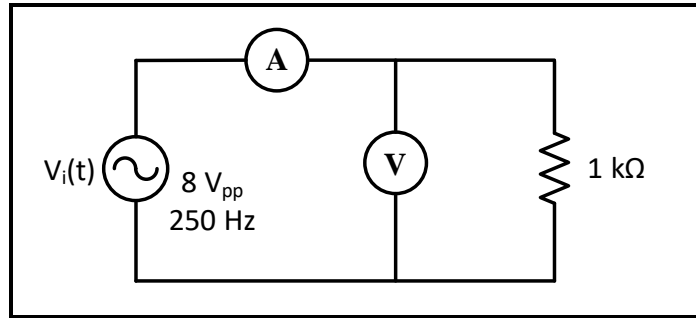

Figure 7.7
1. For the circuits shown in Figures 7.7 - 7.10 **calculate the magnitude** of the impedances Z_R , Z_C , Z_L , and Z_{RC} respectively, for the following frequencies: 250, 500, 1000 and 2000 Hz.
1. Connect the circuit in Figure 7.7, set V_{in} to sinusoidal voltage at $8 V_{pp}$, $f = 250$ Hz